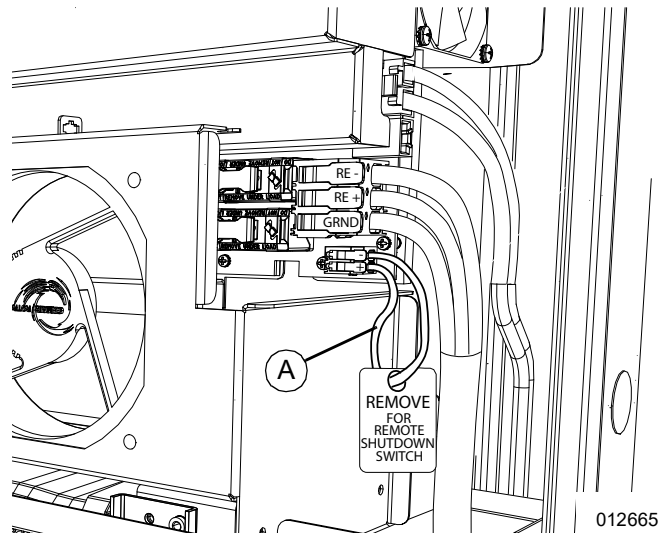

Figure 4-12. Remove Jumper
NOTE: See **Figure 4-12**. The STOP terminals ship with a 14 AWG jumper (A) installed. Remove this jumper before installing an external shutdown switch.